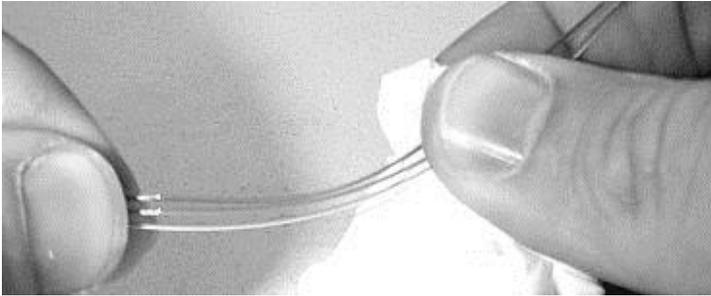

Figure 15 – Carefully clean the fibers.
4.16 Carefully clean the exposed fibers using a lint-free wipe soaked with isopropyl alcohol (Figure 15).